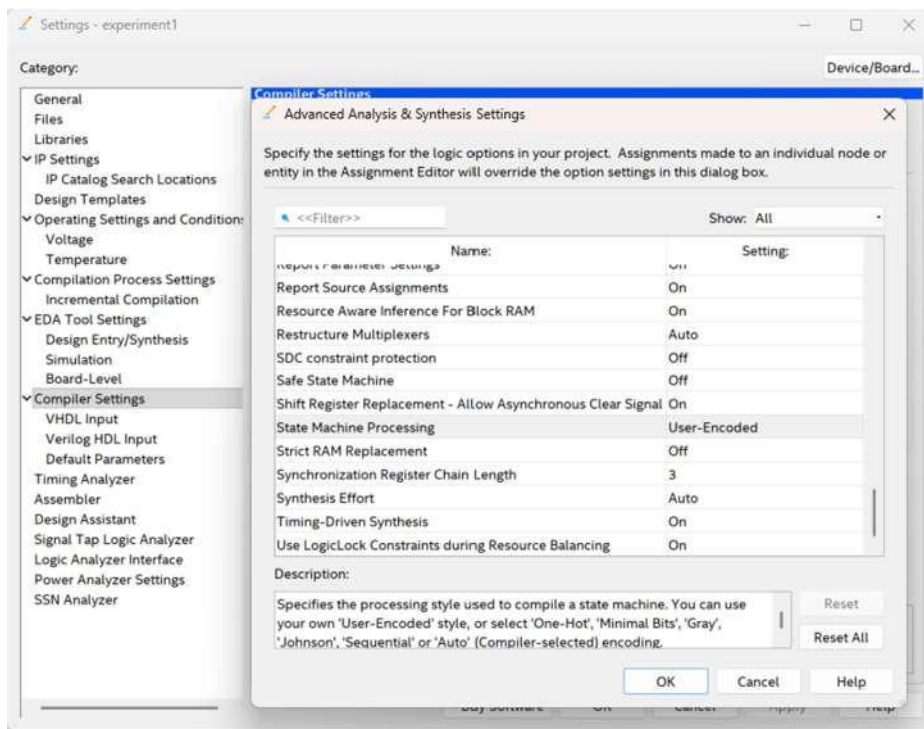

Figure 3: Specifying the state assignment method in Quartus.
2. It is necessary to explicitly tell the Synthesis tool in Quartus that you wish to have the finite state machine implemented using the state assignment specified in your Verilog code. If you do not explicitly give this setting to Quartus, the Synthesis tool will automatically use a state assignment of its own choosing, and it will ignore the state codes specified in your System Verilog code. To make this setting, choose **Assignments > Settings** in Quartus, and click on the **Compiler Settings** item on the left side of the window, then click on the **Advanced Settings (Synthesis)** button. As indicated in Figure 3, change the parameter **State Machine Processing** to the setting **User-Encoded**.